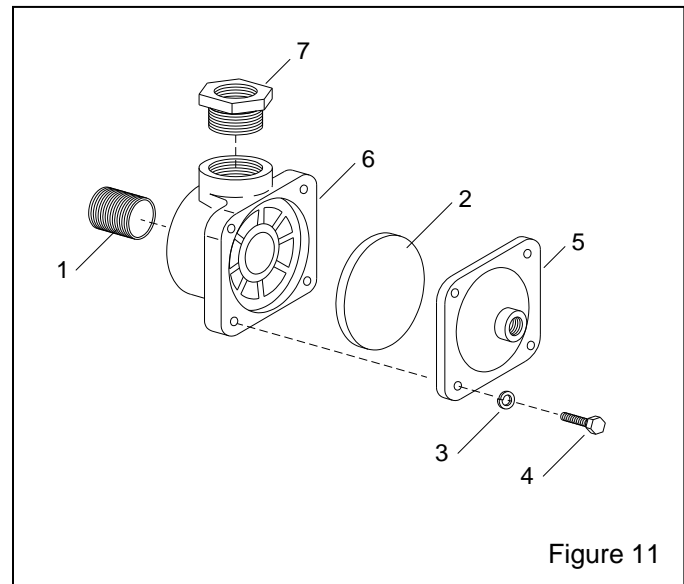

Figure 11
7.9 1" Diaphragm Outlet Valve Figure 11